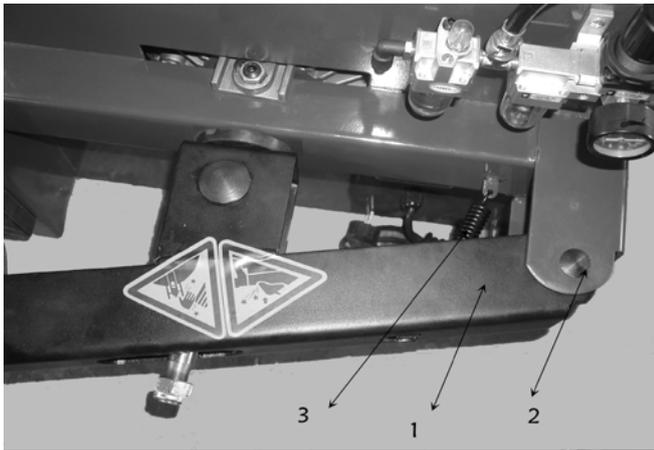

Fig 4-6
**4.2.9 Insert the bead breaker arm (1) into the bead breaker bracket on the body and align the two holes and mount the bead breaker arm pin shaft (2) and also elastic retaining ring to positioning. Hang the spring (Fig 4-6-3) as shown in Fig 4-6.**